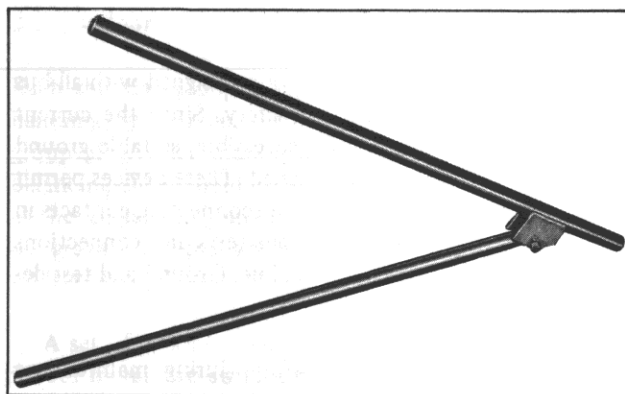

Fig. 40 Arc Chute Lifter (376450)
1.31.8 AN ARC CHUTE LIFTER (Fig. 40) assists in tilting back the arc chutes on the 50DHP350 and all 8.25 and